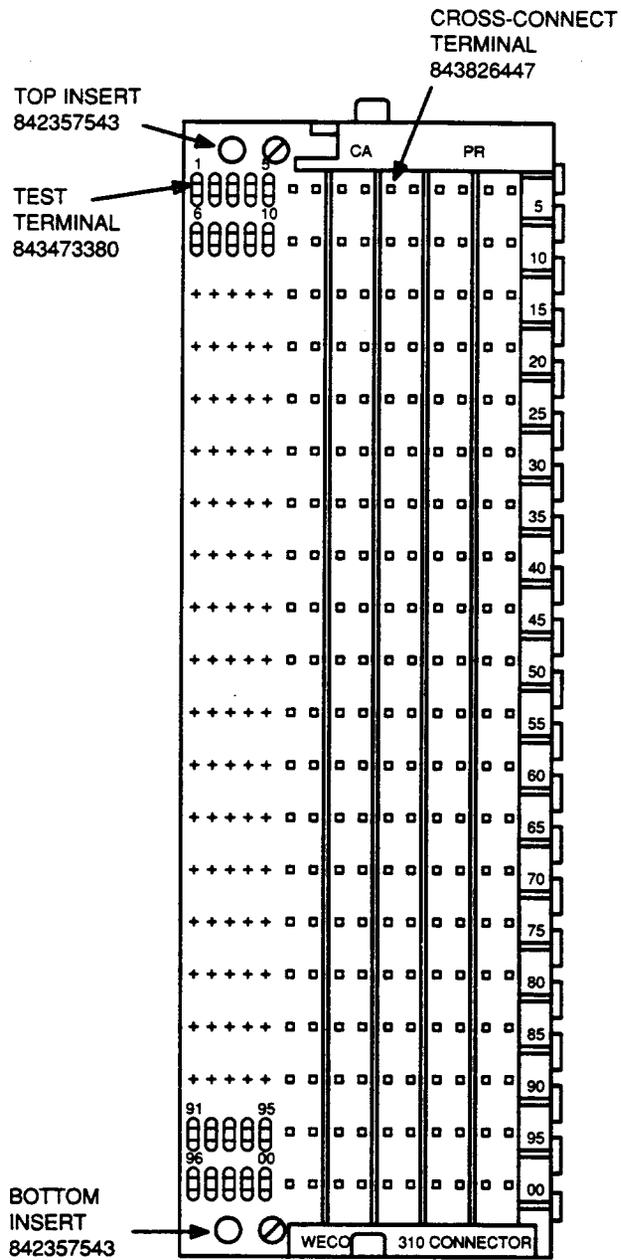

Figure 17. 310-Type Connector, Front View
**4.11** The 843826447 cross-connect and the 843473380 test terminals (Figure 17), and the quick clip terminals cannot be easily replaced without unfastening the connector and moving it out from the framework vertical. For this reason, no removal or replacement procedures are given. If it is necessary to replace one of these terminals or the top or bottom insert, contact your local AT&T Account Executive.
**8.02** The 843826447 cross-connect and 843473380 test terminals (Figure 17) cannot be easily replaced. In addition, repair of broken or damaged wire conductors leading from the swivel type metal coupling to the 842360562 tip or ring terminal (Figure 14) must comply with special requirements to protect the integrity of the UL Listed design. If it is necessary to perform either of these operations, contact your local AT&T Account Executive for assistance.